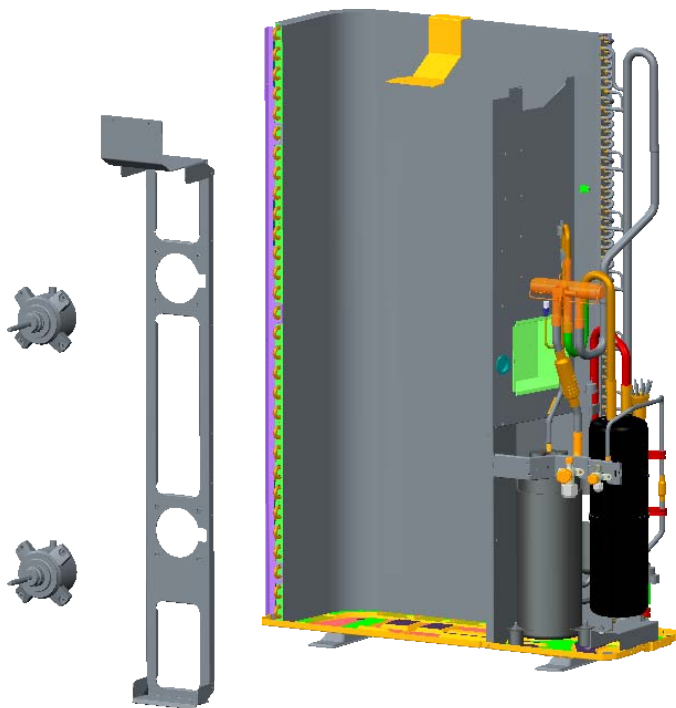

Fig.10
- Remove the motor support. Loosen the wire of motor, and pull it through the hole. Remove the motor. [See Fig. 10]